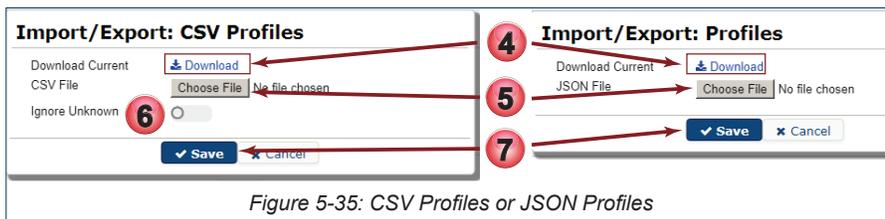

Figure 5-35: CSV Profiles or JSON Profiles
4. To save current Decryption Profiles to your computer in whatever format you have selected, click the **Download** link, Figure 5-35. The profile is downloaded to your usual browser downloads folder.